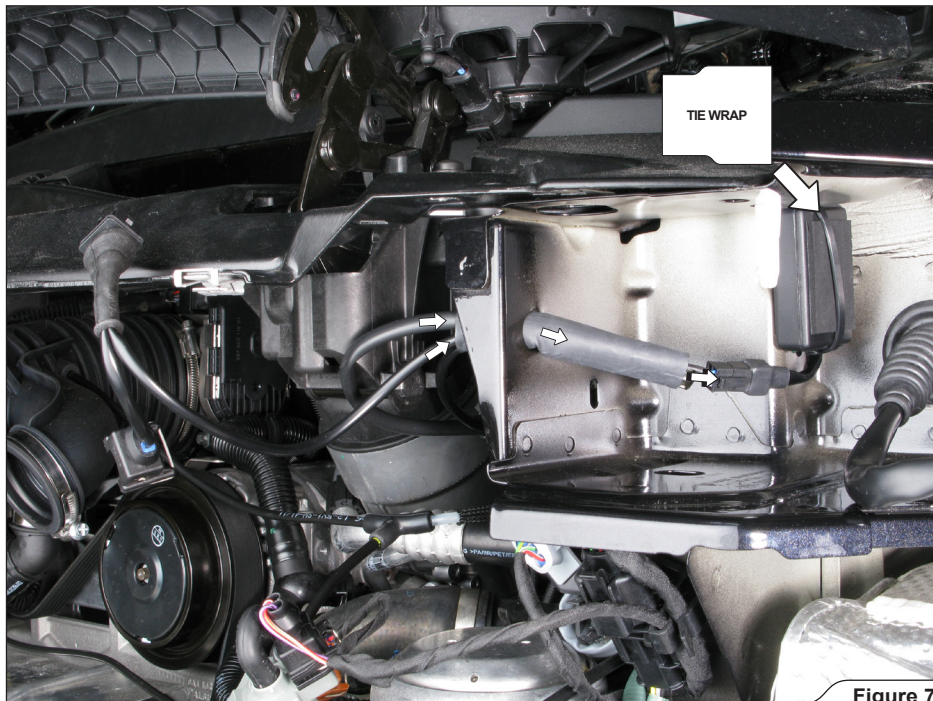

Figure 7
- Secure the transmitter to the chassis using tie wrap from Akrapovič installation kit and connect it to the wiring harness, as shown **(Figure 7)**.